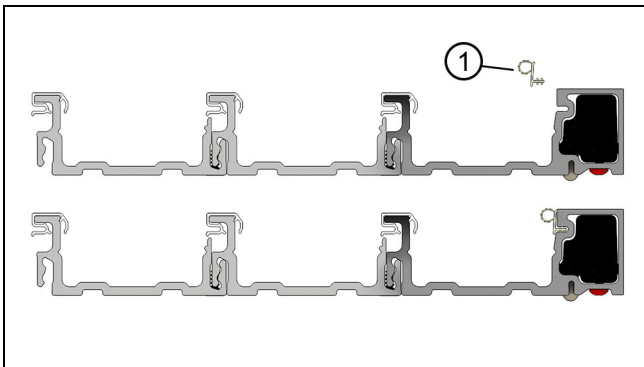
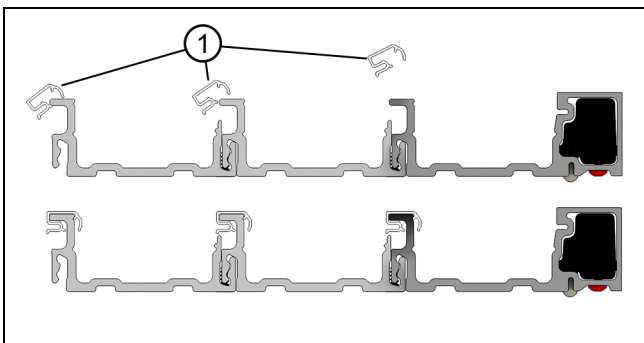
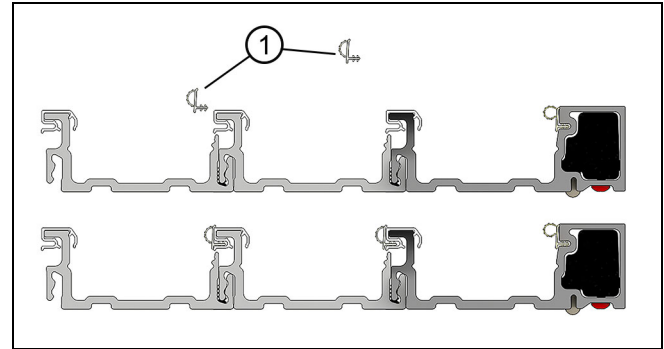
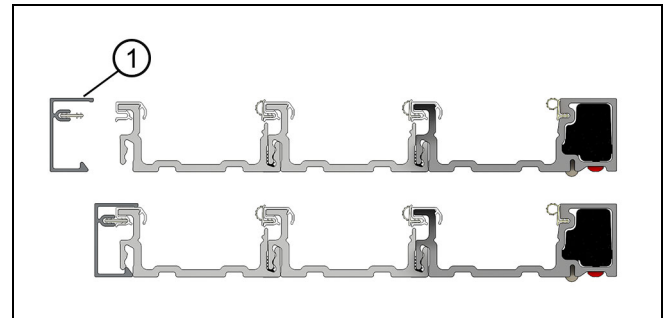

Figure 39
Figure 40
Figure 41
Figure 42
10. Where required, add the frame liner, weather strip, dust blocks, and frame clips over the spliced sections. See Figure 39, Figure 40, Figure 41, and Figure 42.